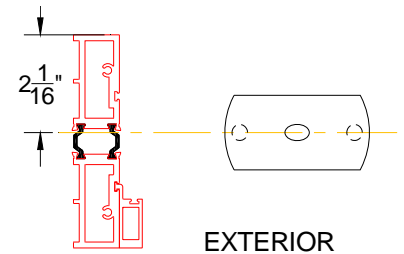

Figure 11:
3. The center of the floor plate is to be set back 2-1/16" from the interior face of the jamb and level (Figure 11).